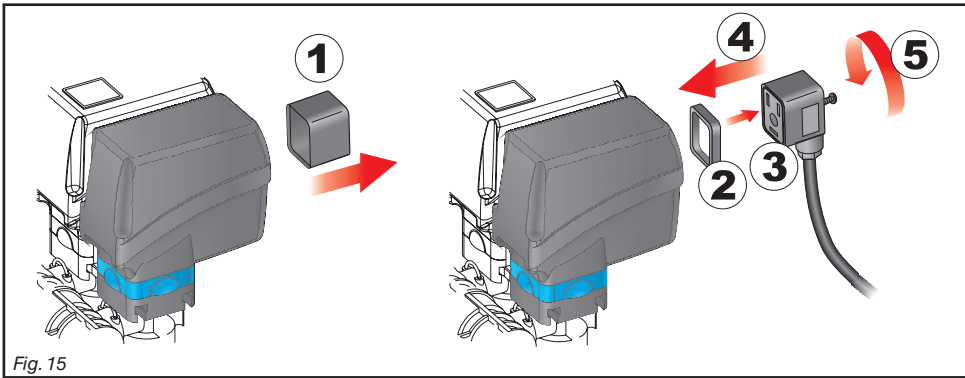

Fig. 15
- All valve connectors must be provided with seals before being connected (Fig. 15).
- Remove the protection cap (1, Fig. 15) from the electric valve.
- Place the seal (2) onto the connector (3), and push the connector fully on (4): **be careful not to bend the contacts upon insertion on the valve.**
- Tighten the screw (5) fully home.